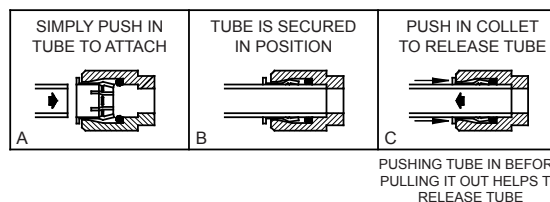

FIG. 2
- 3. Actuation of Quick Connect Water Fittings:** Cooler is provided with lead-free connectors which utilize an o-ring water seal. To remove tubing from the fitting, relieve water pressure, push in on the gray collar while pulling on the tubing (See Figure 2). To insert tubing, push tube straight into the fitting until it reaches a positive stop, approximately 3/4".